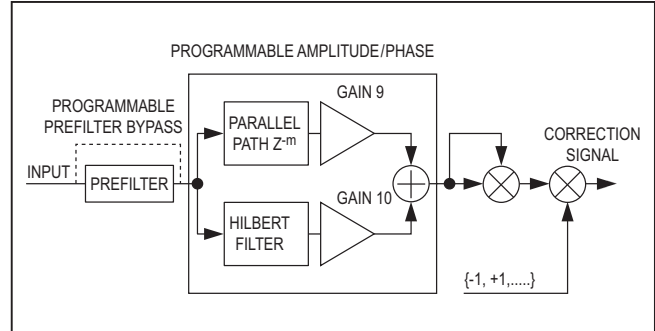

Figure 15.  $f_{DAC}/2 - 2 \times f_{OUT}$  DAC DPD
- $f_{DAC}/2 - 2 \times f_{OUT}$  DPD: This block allows for the correction of  $f_{DAC}/2 - 2 \times f_{OUT}$  spur. The block diagram of this section is shown in Figure 15.
The  $f_{DAC}/2 - 2 \times f_{OUT}$  DPD block (Figure 15) includes a bypassable prefilter with a nonlinear phase response that approximates the characteristics of the MAX5862’s RF-DAC spur. The prefilter output feeds a Hilbert filter and a parallel path, which produce  $-90^\circ$  and  $0^\circ$  phase shifts, respectively. A weighted sum of these two is squared and modulated with  $\pm 1$  to calculate the block’s DPD output. The modulation pattern is programmable and can start with either +1 or -1 for the first output sample, and alternates for the rest of the seven output samples from the DPD. The Hilbert filter is scaled by the gain coefficient Gain 10, and the parallel path with  $0^\circ$  phase shift is scaled by the gain coefficient Gain 9.